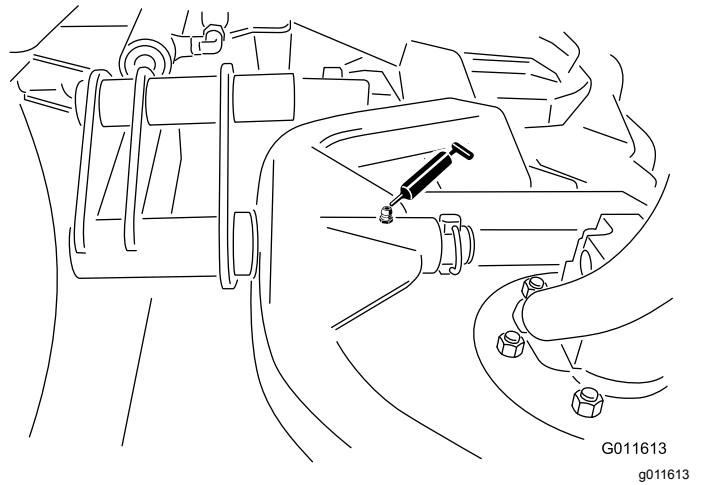

Figure 29
- Cutting unit carrier-frame pivot (1 each)—Figure 29